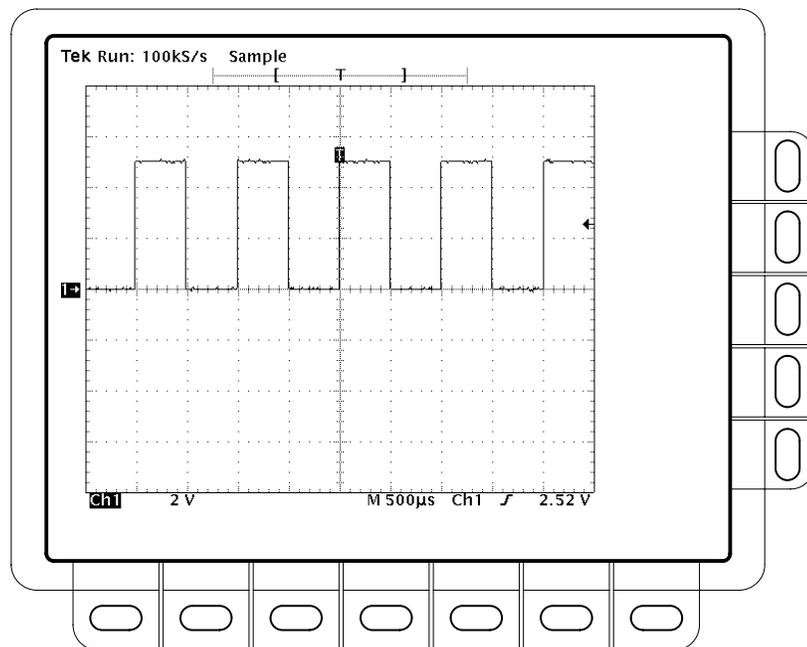

Figure 2-5: Compensation waveform
2. Press AUTOSSET. The oscilloscope displays the compensation waveform. It should resemble the waveform shown in Figure 2-5.